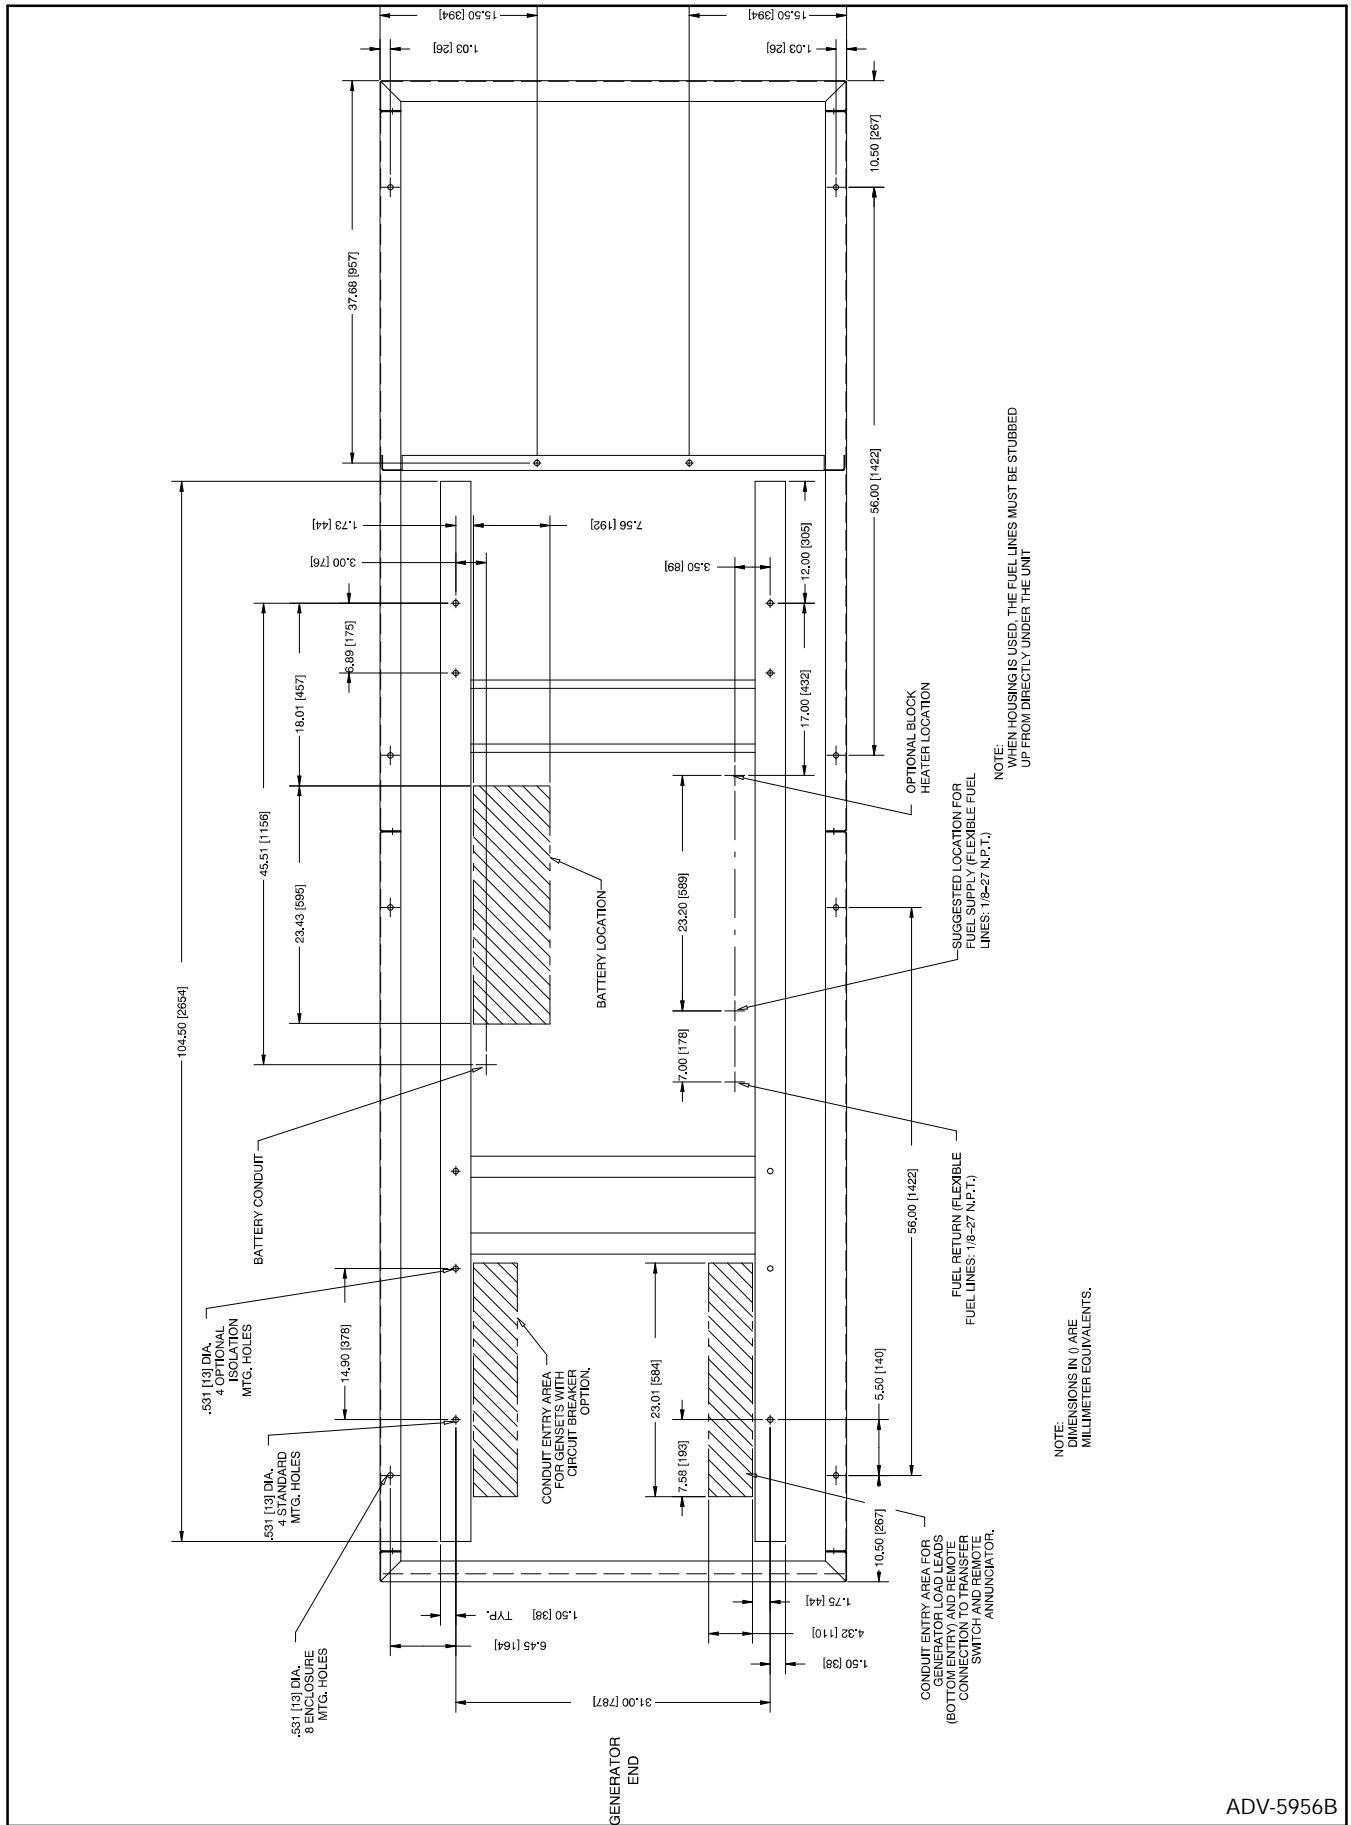

Figure 3. Sound Shield Enclosure\Generator Floor Mounting Plan
12. Secure sound shield enclosure to mounting base. See Figure 3 for hole locations.